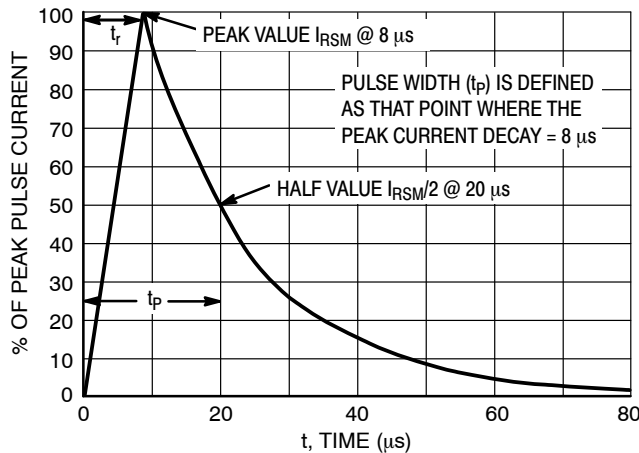

Figure 7. 8 X 20 μs Pulse Waveform
3. Surge current waveforms per Figure 7.